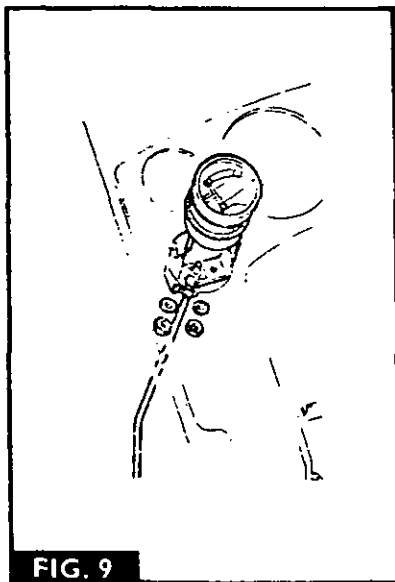

FIG. 9
2. Fig. 9. Disconnect the oil pressure pipe from the rear of the gauge.